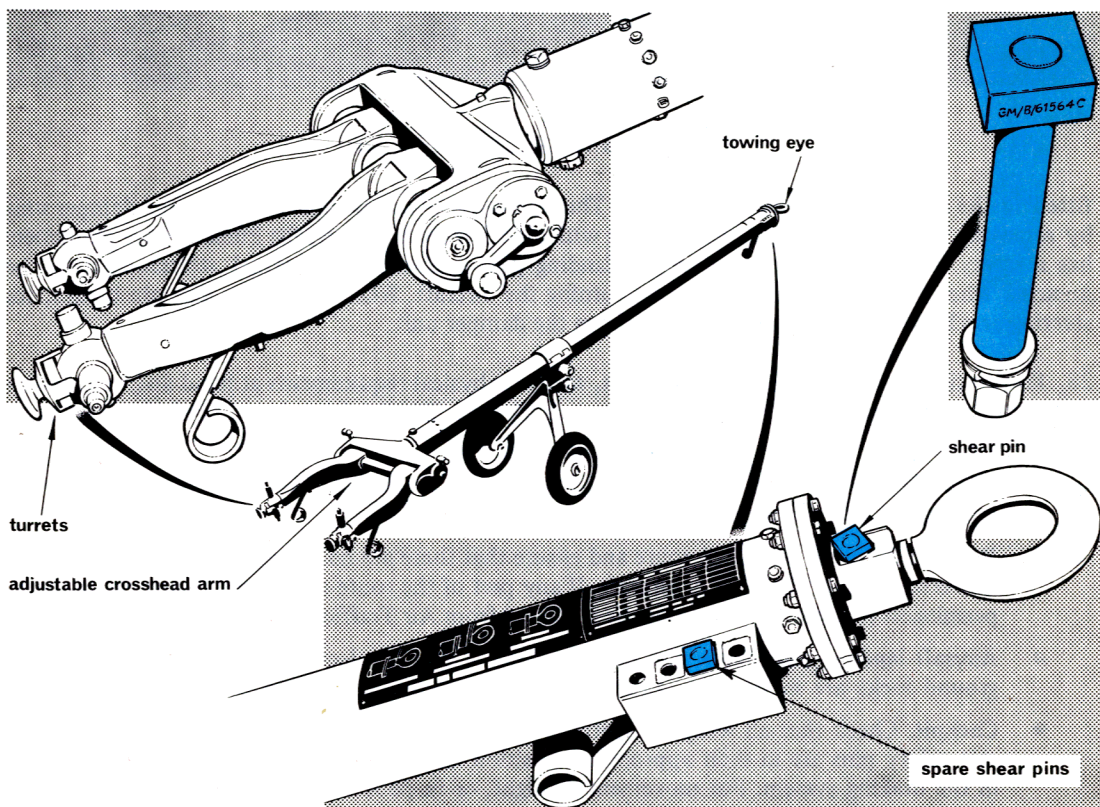

Fig. 15. Adaptable Tow Bar
26. Towing arms or bars fall into two main categories: those that are adaptable for use on the number of aircraft of similar size, and those that are special-to-type and can only be used for one particular aircraft. The illustration at Fig. 15 shows an example of an adaptable type which is used for towing Harrier, Phantom, Buccaneer, and Lightning aircraft. The adjustable forked end of the tow bar is fitted with four-position turrets which can be rotated to fit the nose-wheel axles of the various aircraft. At the other end of the bar is the towing eye and the safety shear pin which is designed to fracture when an excessive load is applied to the aircraft nose wheel leg. Two shear pins are supplied for use with this tow bar and spares are carried in the stowage on the side of the bar. One pin is designed to fracture at 8500 pounds/force and coloured red; the other at 6800 pounds/force and is coloured blue. An informative tablet on the side of the tow bar indicates the particular shear pin to be used with each aircraft and the condition of the towing eye when a **shear pin failure** occurs.